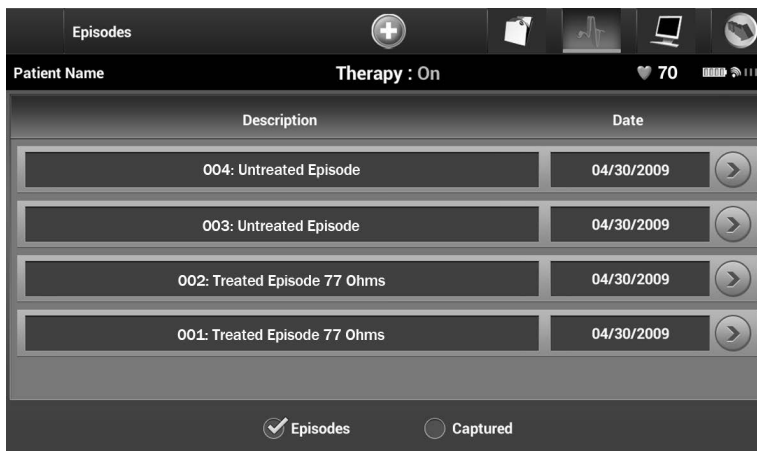

Figure 36: *Stored Episodes screen (scrollable list)*
Note: Choosing the “View” button in the Treated Episodes row allows navigation directly to the list of stored episodes (Figure 36).
5. Select an episode (treated or untreated) from the list (Figure 36). The selected episode will be downloaded from the SQ-RX device and displayed.
Note: *In order to be available for printing, episodes must be individually selected and viewed from the Stored Episodes Screen (Figure 36).*
Note: *In order to be available for printing, episodes must have been individually selected and viewed from the Stored Episodes Screen (Figure 36).*